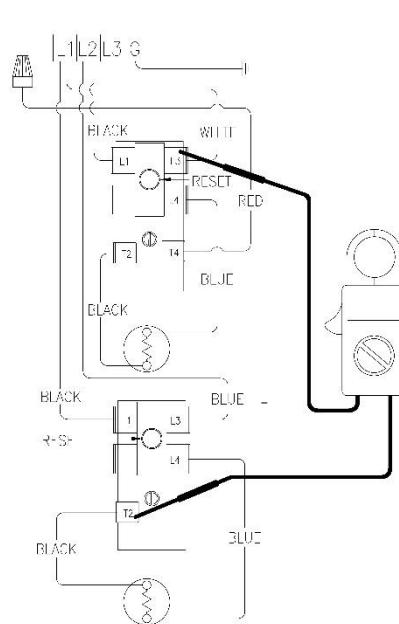

Figure 14
7. Check across terminal L3 of upper thermostat and T2 of lower thermostat (see Figure 14).